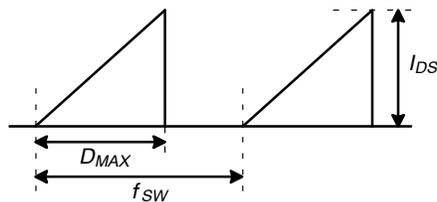

Figure 4. Repetitive Peak Switching Current
6. Repetitive peak switching current when the inductive load is assumed: Limited by maximum duty (D_{MAX} = 0.83) and junction temperature (see Figure 4).